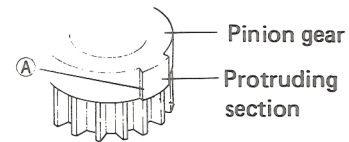

Fig. 4-2 Elimination of pinion gear protrusions
If there are rough areas of plastic protruding from the (A) section of the protruding section of the pinion gear, the return function may operate at a pitch of only 1mm. In this case, remove the plastic protrusions completely (Fig. 4-2)